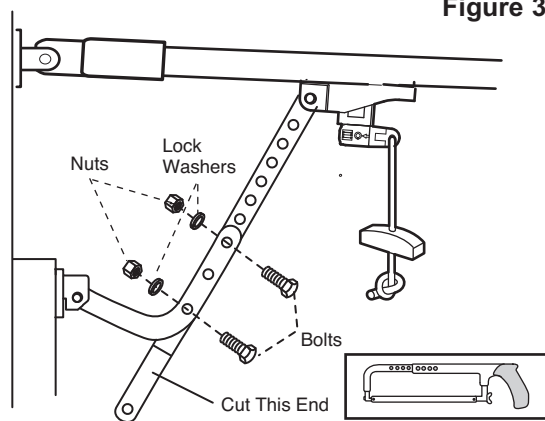

Figure 4
- Assemble the door arm as illustrated in Figure 4.